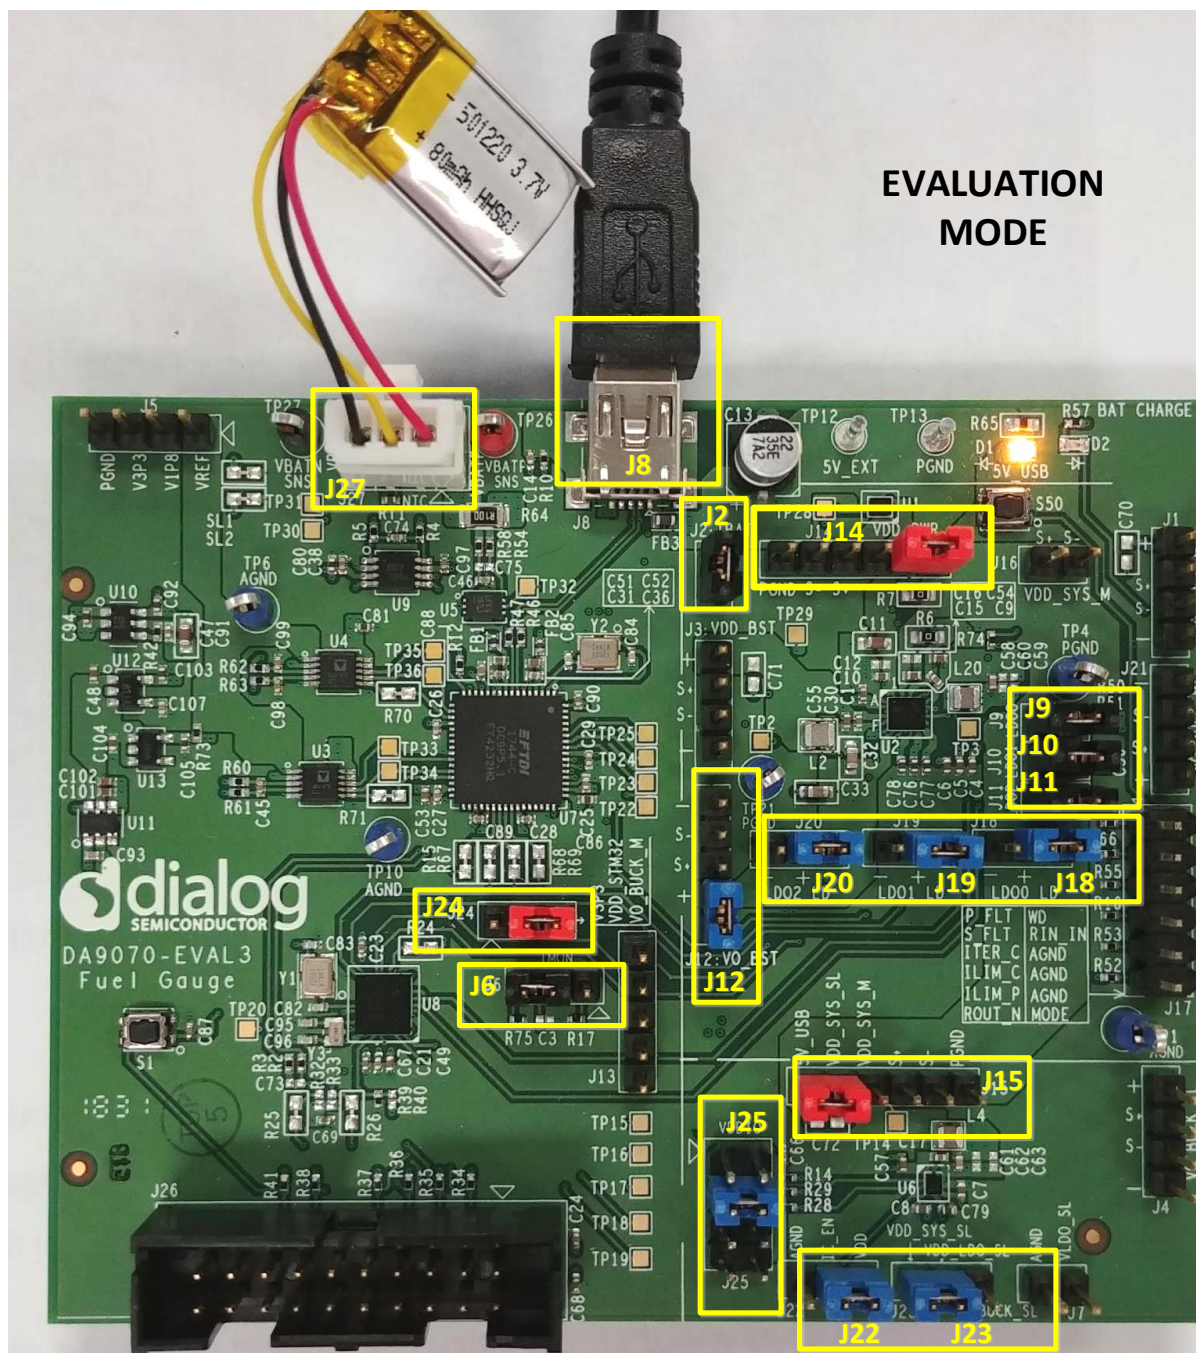

Figure 3: Basic Jumper Settings for Evaluation Mode
- Install jumpers as shown in Figure 3.
If on-board load resistors are used, jumpers need to be installed on LDO0/1/2_LD and VO_BST connectors, as shown in Figure 3. The default load resistor values are shown in Table 3. The load current for each rail will be determined by the programmed output voltage divided by the fixed load resistor values. The total load can be controlled from the GUI Fuel Gauge window.